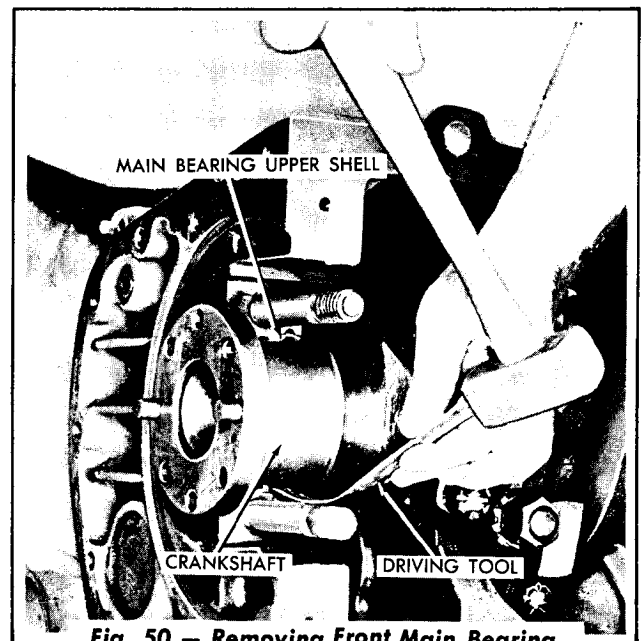

Fig. 50 - Removing Front Main Bearing Upper Shell
- b. The upper half of the front main bearing shell may be rolled out of place by driving on the edge of the bearing shell with a small curved rod or a suitable length of copper tubing (flattened on one end) as shown in Fig. 50, while rotating the crankshaft.